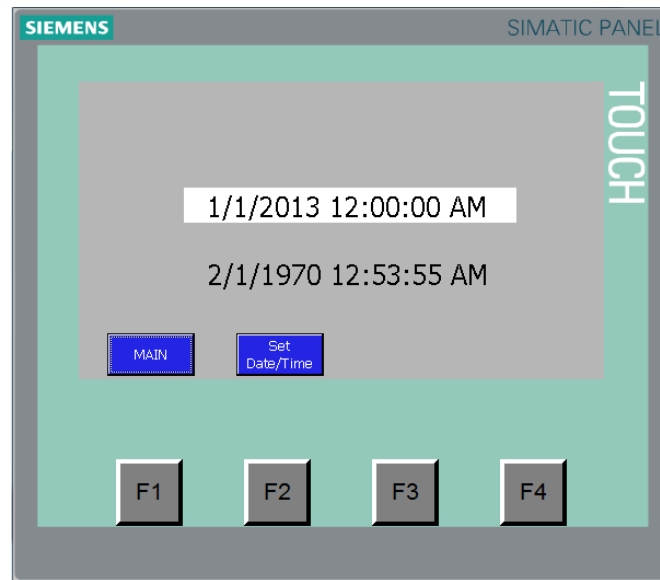

Figure 3-8
1. To check or change the date and time, start at the Machine Running screen (Figure 3-3). Press the MISC button followed by the Set PLC Date and Time to go to the Date and Time screen (Figure 3-8).